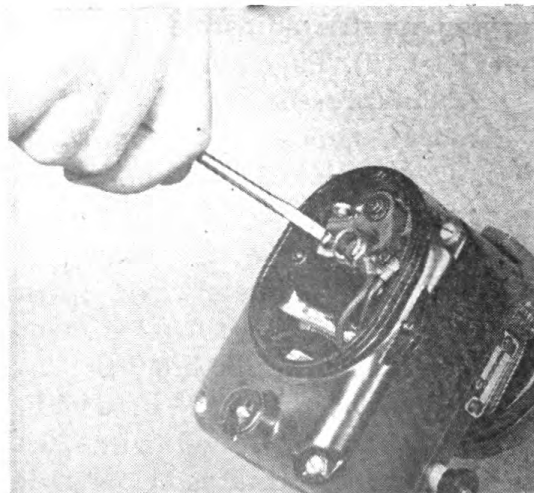
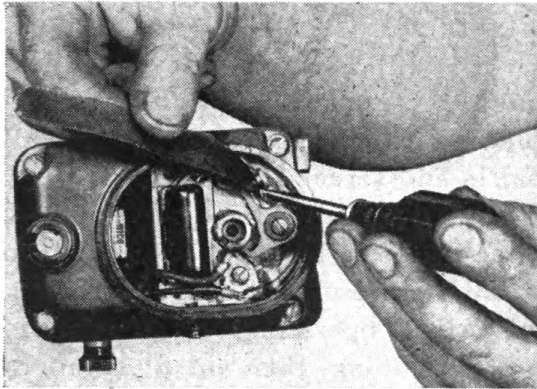

Figure 38
Figure 39
(1) Points should be smooth and free from foreign matter. Lacquer thinner is an ideal cleaner for this purpose.
(2) Adjust breaker points to .015" when fully opened by first loosening the fixed contact screw (See Figure 38). Adjust gap to .015" by turning the small eccentric screw (See Figure 39). The use of Wico Tool X5449 is suggested to adjust the alignment so that surfaces of both contacts meet squarely.